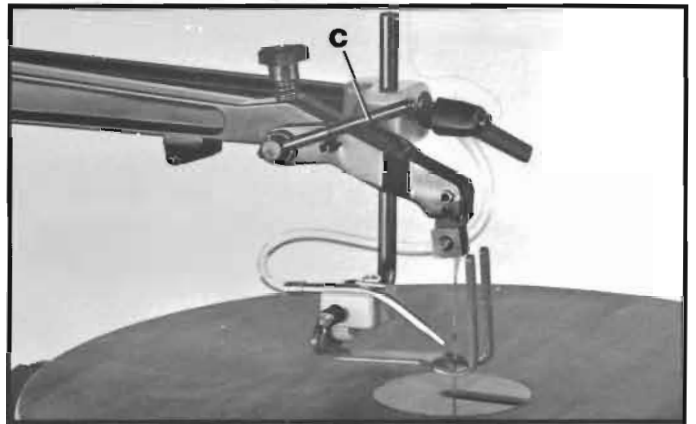

Fig. 31
3. Release blade tension by pulling tension lever (C) Fig. 31, forward as shown.